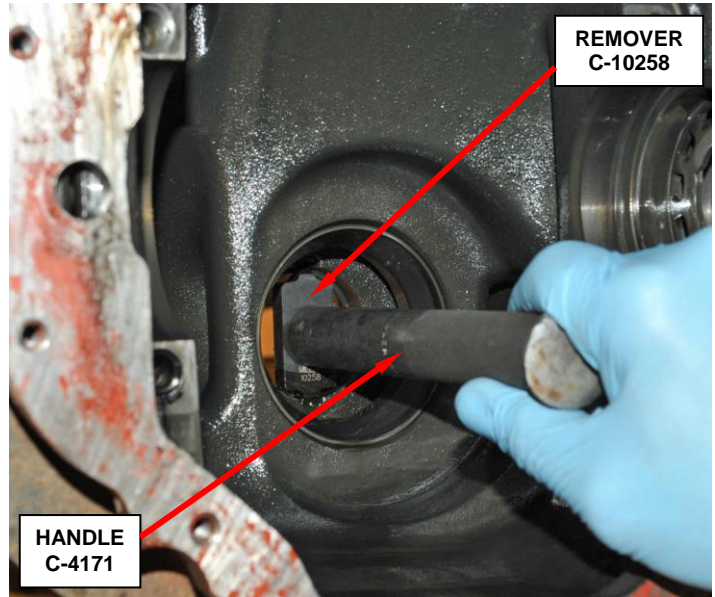

Figure 14 – Front Pinion Bearing Cup Removal
- h. Remove the front pinion bearing cup with Remover C-10258, Handle C-4171 and a hammer (Figure 14).